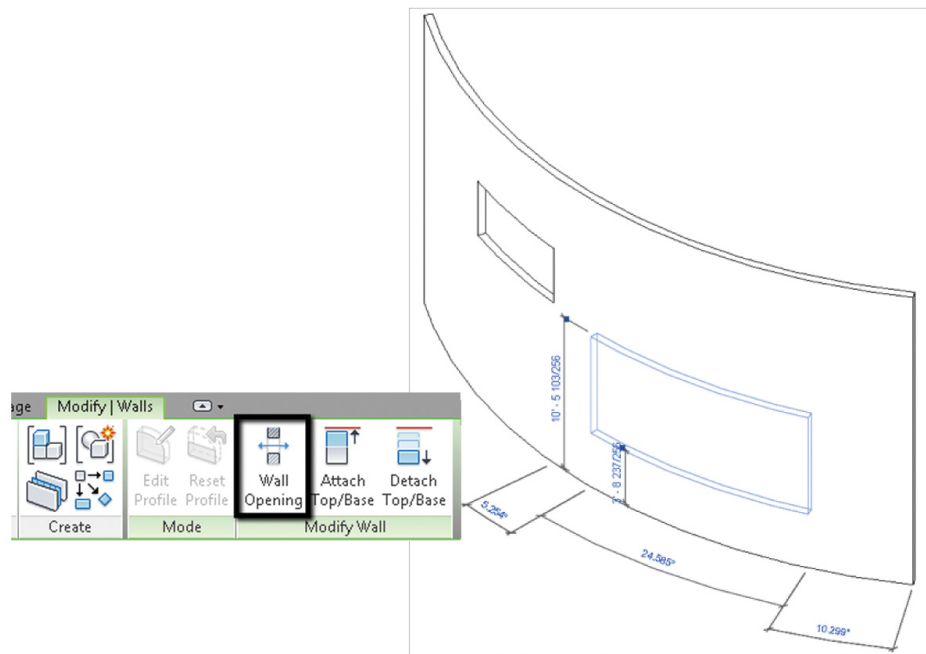

FIGURE 2.17 Creating wall openings
2. The Wall Opening option appears on the Modify | Walls tab, as shown in Figure 2.17 on the left. Select this command, and then hover over the wall; you are prompted to create a rectilinear opening, as shown on Figure 2.17 on the right.